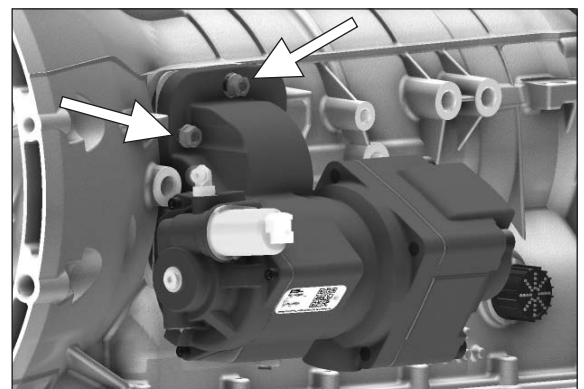

Figure 53
11. Install the PTO over the studs and attach the self-locking nuts to the top shoulder stud and left top shoulder stud. **DO NOT** tighten down at this time (**Fig. 53**).